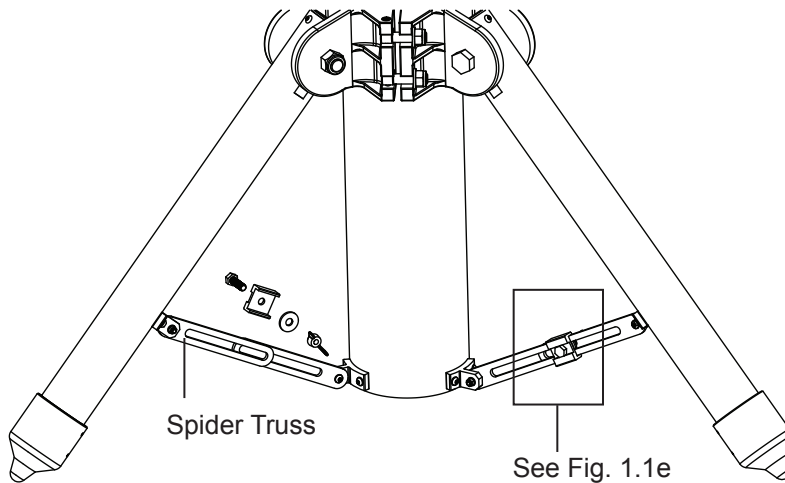
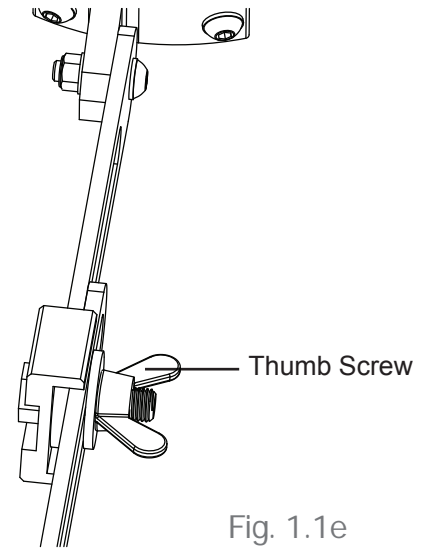

Fig. 1.1d
Fig. 1.1e
- Assemble the 3 adjustable spider trusses as shown in Fig 1.1d and Fig 1.1e. Do not tighten the thumb screws at this moment.
- Tighten the locking ring when the tripod top is leveled. (Fig. 1.1d).